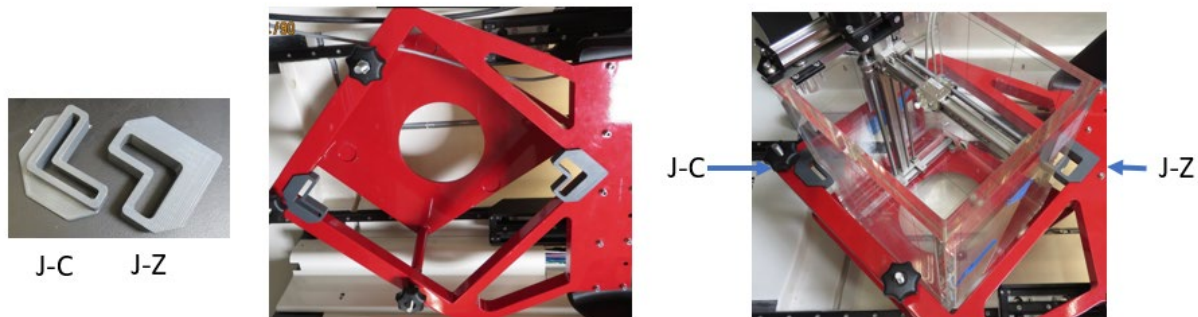

Figure 1-1. PTW Tank
2. Place an empty PTW tank in the bracket and center the tank with 2 centering jigs (see Figure 1-1).